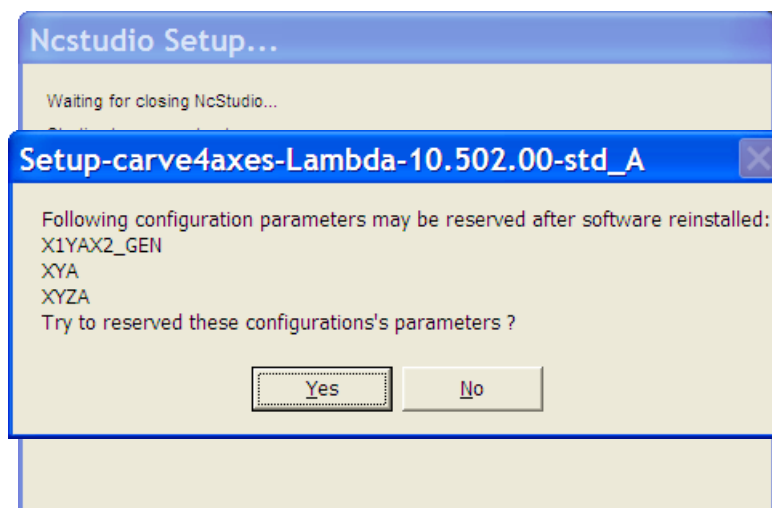

Fig. 1-3 Prompt to reserve parameter settings
- 4) Click [OK] for confirmation. If any old version software has been installed in this PC, the system will prompt to save its parameter settings. If you save the parameter settings here, you can apply all the settings to the current software, needless to set the parameters again afterwards. You can make your own decision and choose [Yes] or [No] to go ahead, see Fig. 1-3. If you install the software of the type for the first time, this step would be absent. Please jump to “Step 5)” to move on.